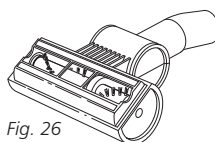

Fig. 26
- 3** Turn the turbo brush over to inspect the rotating brush and cut away any build-up of hair or string wrapped around the rotating bristle brush with scissors. (**Fig. 26**)